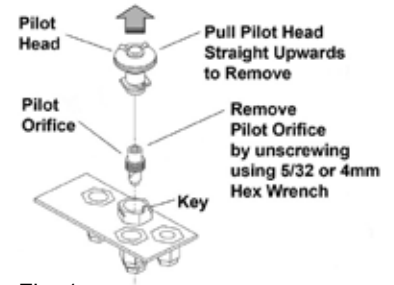

Fig. 1
2. **Remove and replace the existing pilot injector** by pulling the pilot hood off (upwards) and unscrewing the pilot injector using a 4 mm (5/32") hex wrench (see Fig. 1). Set the existing injector aside. Check the size of the new injector (see chart), insert the new injector, tighten, then reinstall the pilot hood, lining up the slot in the hood with the key in the holder.